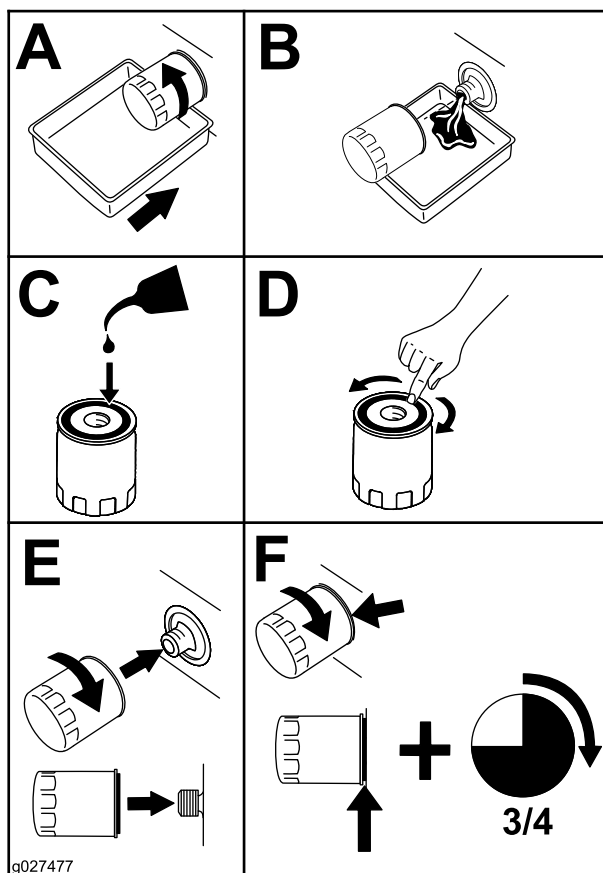

Figure 49
2. Change the engine-oil filter (Figure 49).